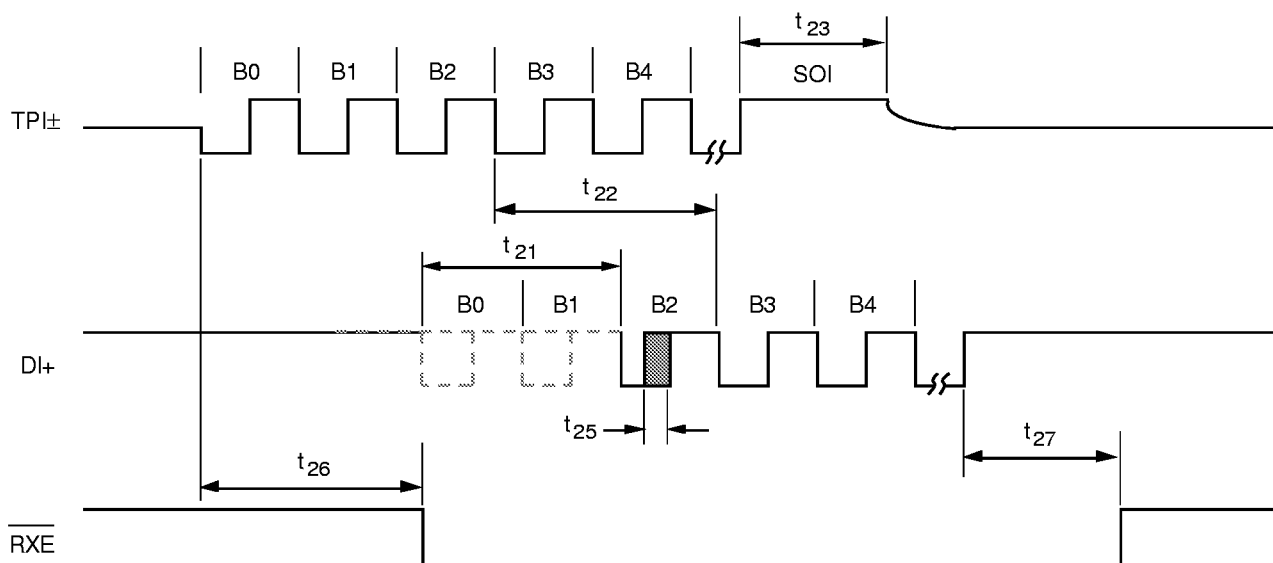

Figure 9. Receive Section Timing
Refer To Figure 9 For Timing Diagram
- Figure 9. Receive Section Timing, timing $DI+$ has been changed.